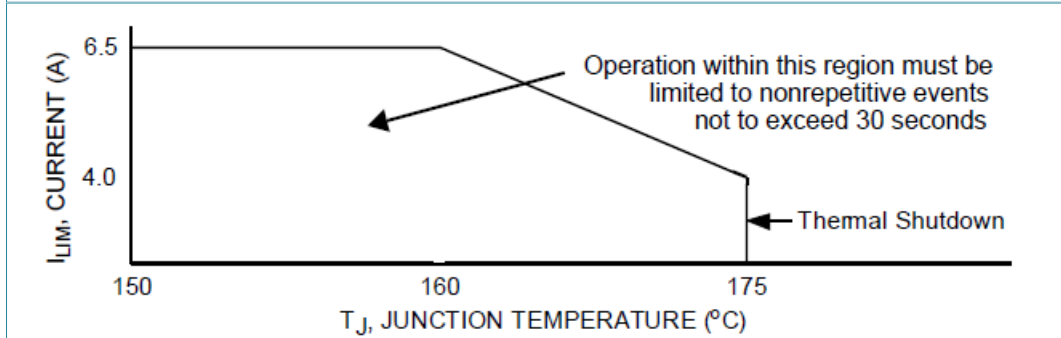
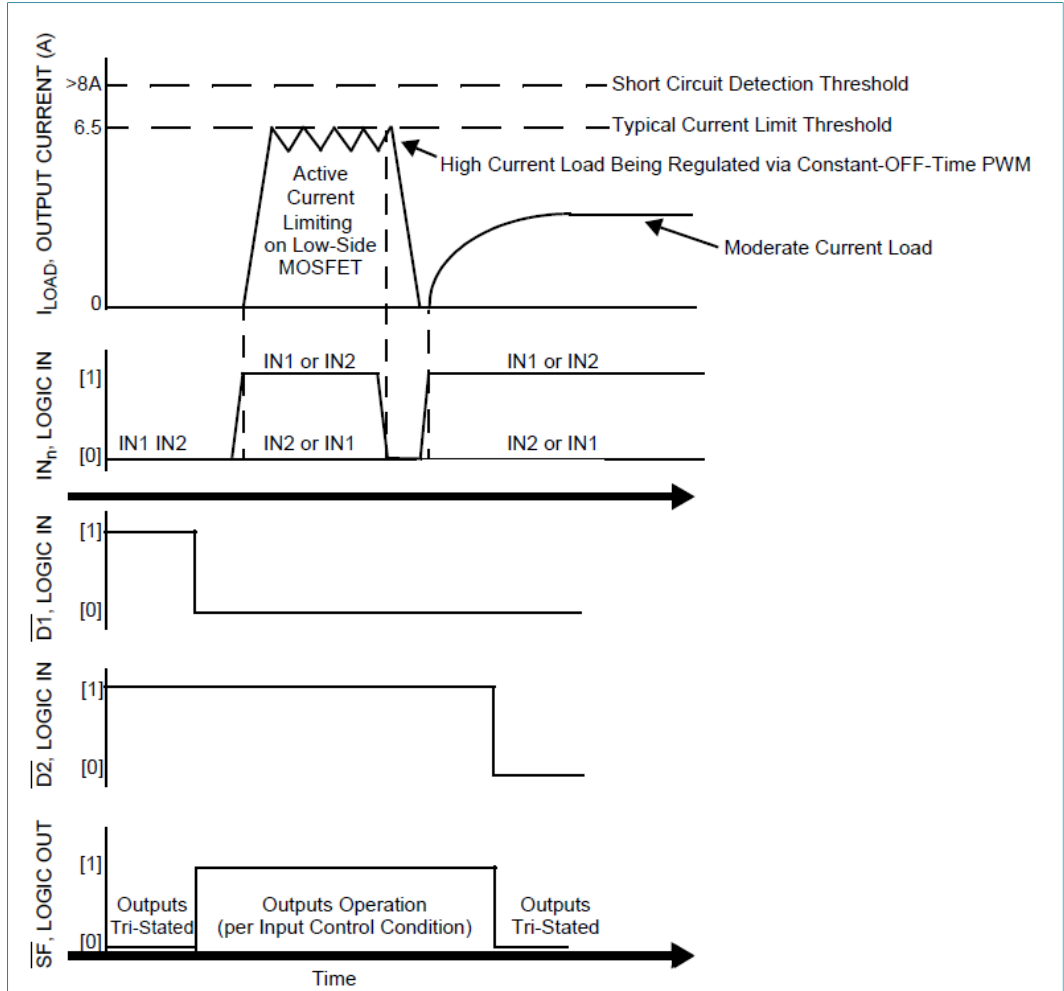

Figure 9. Active current limiting versus temperature (typical)
Figure 10. Operating states
- [5] Load currents ramping up to the current regulation threshold become limited at the I_{LIM} value. The short-circuit current possess a di/dt that ramps up to the I_{SCH} or I_{SCL} threshold during the I_{LIM} blanking time, registering as a short-circuit event detection and causing the shutdown circuitry to force the output into an immediate 3-state latch OFF. See Figure 10 and Figure 11. Operation in current limit mode may cause junction temperatures to rise. Junction temperatures above ~160 °C causes the output current limit threshold to progressively foldback, or decrease with temperature, until ~175 °C is reached, after which the T_{LIM} thermal latch OFF occurs. Permissible operation within this foldback region is limited to nonrepetitive transient events of duration not to exceed 30 seconds. See Figure 9.
The current limiting threshold value is dependent upon the device junction temperature. When $-40\text{ °C} \leq T_J \leq 160\text{ °C}$, I_{LIM} is between 5.2 A to 7.8 A. When T_J exceeds 160 °C, the I_{LIM} current decreases linearly down to 4.0 A typical at 175 °C. Above 175 °C the device overtemperature circuit detects T_{LIM} and overtemperature shutdown occurs (see Figure 9). This feature allows the device to remain operational for a longer time but at a regressing output performance level at junction temperatures above 160 °C.